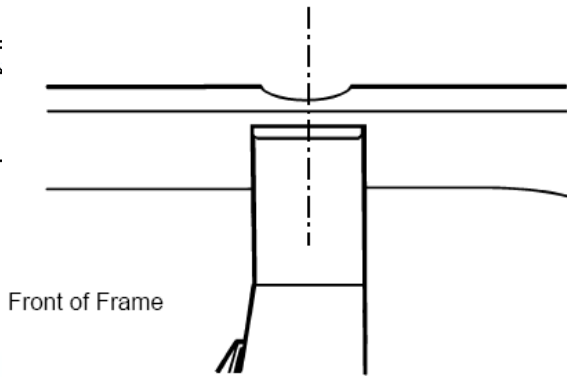

Figure 4- Crossmember Install
- 4) Now it is time to start fitting and installing the new crossmember. Slip the crossmember up into the frame and center it on the scribed axle center line. See **Figure 4**. If it does not fit, grind the sides of the crossmember until you can get the crossmember in place, as shown. Make sure the crossmember is fully seated on the underside of the actual lower boxing plate and your lower A-arm tube is parallel to the ground. Tack weld the crossmember, check the location and measurements, then weld in place all around both ends, top, sides, and bottom.